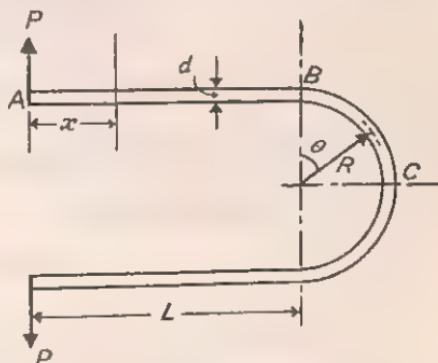

Fig. 41
21. A spring used in a measuring device is made of a rod of steel of diameter d bent to the form shown in Fig. 41 so that a force P applied to the ends of the spring will increase the distance between the ends by an amount δ . Show that the stiffness of the spring